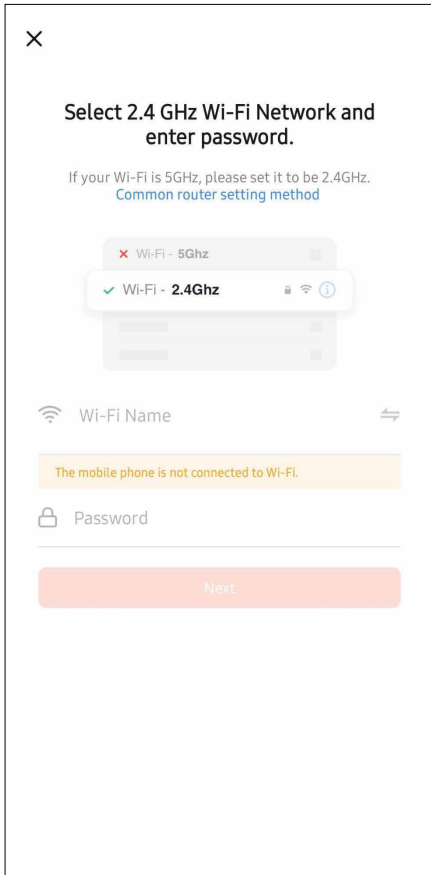

Figure 15
- 5 Type in your WiFi SSID and password, ensuring that you are connecting to a 2.4Ghz network. Choose 'Next'. (Fig.15)